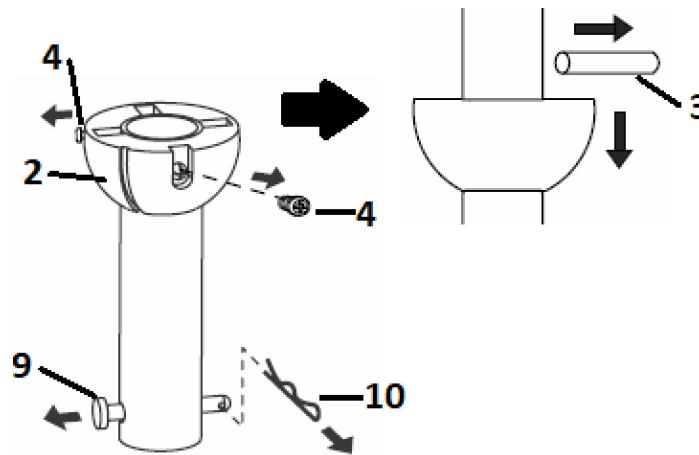

Fig. 4.1
1. Remove the ball joint (2) and dowel pin (3) by loosening the set screws (4) from the down rod (6). Remove the hitch pin (9) by removing the lock clip (10). **NOTE: Do not discard keep these parts, they are required to reassemble later. (Fig. 4.1)**